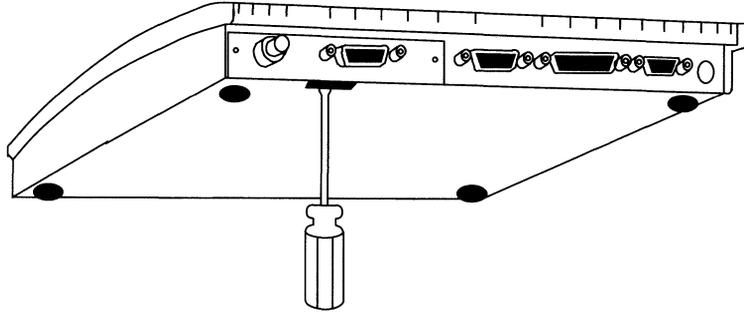

Figure 2-7. Removing the Communications Interface Module
2. Place a flat-blade screwdriver in the slot at the bottom of the base unit and twist it to loosen the communications module. See Figure 2-7.